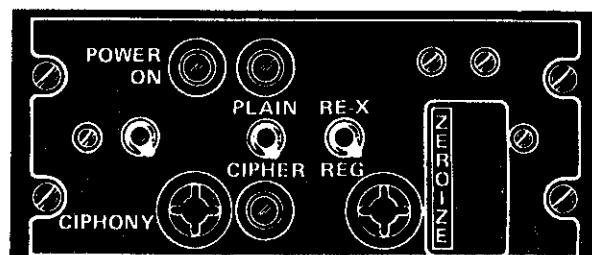

Figure 4-8. Control indicator C-8157/ARC
Voice security unit TSEC/KY-28 is a classified audio processing device that accepts voice communications from the aircraft communications system, encodes the audio, and delivers it to the FM radio set for transmission. It decodes information received by the FM radio set and delivers decoded voice through the communications system to the headset. The control indicator panel is shown in figure 4-8. Power is supplied by the 28V DC essential bus and protected by circuit breaker VOICE SECURITY.
1. Control indicator POWER ON switch ON Figure 4-8).
5. Plain Mode (figure 4-8)
6. Cipher Mode (figure 4-8)